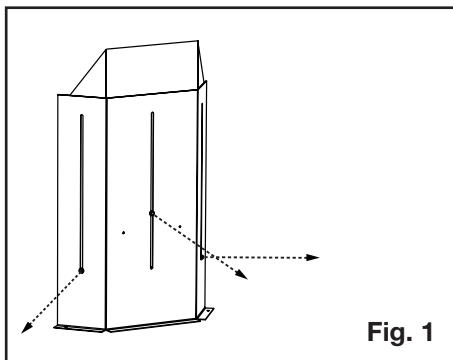

Fig. 1
1. Unscrew the fasteners on the vent shield assembly. DO NOT DISCARD FASTENERS (Figure 1).